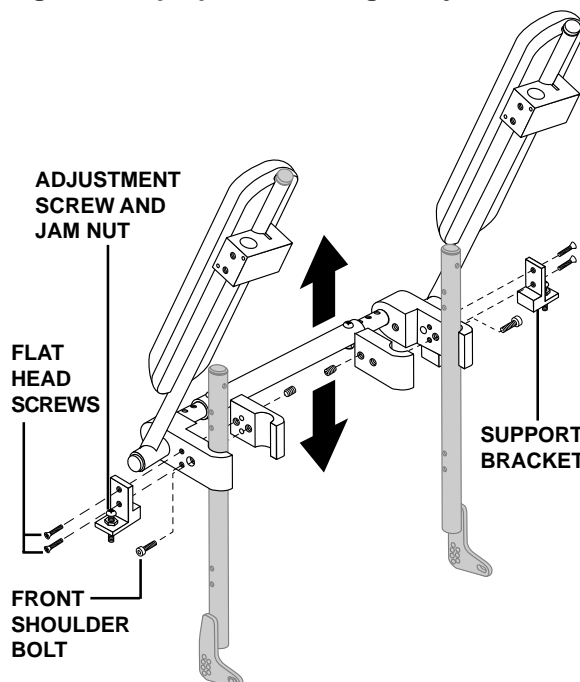

Figure 10. Flip-up Armrest Height Adjustment
3. Use a 5/32-in. hex key to loosen and remove the adjustment screw and jam nut and the two flat head screws from the support bracket. See figure 10.